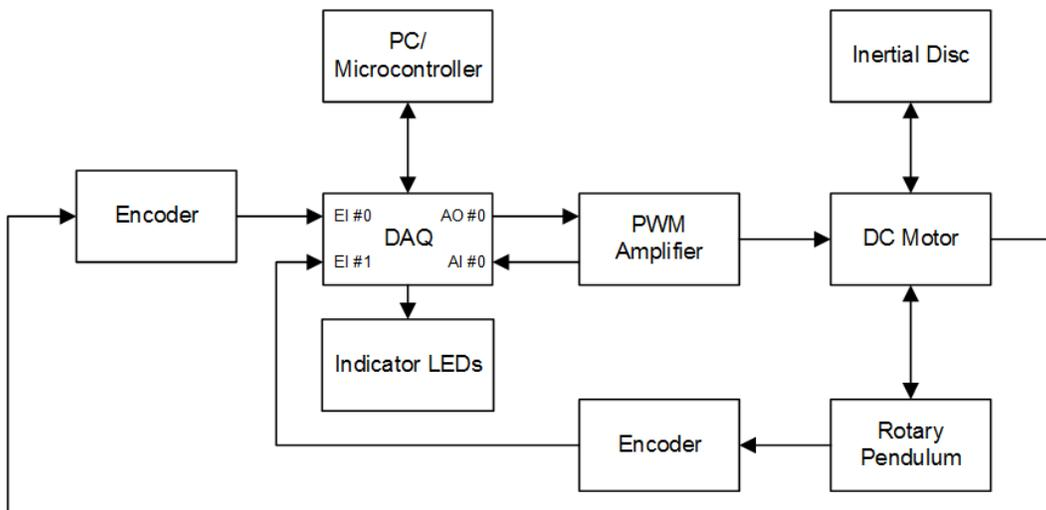

Figure 2.1: Interaction between QUBE-Servo 2 components.
The interaction between the different system components on the QUBE-Servo 2 is illustrated in Figure 2.1. On the data acquisition (DAQ) device block, the motor and pendulum encoders are connected to the Encoder Input (EI) channels #0 and #1. The Analog Output (AO) channel is connected to the power amplifier command, which then drives the DC motor. The DAQ Analog Input (AI) channel is connected to the PWM amplifier current sense circuitry. The DAQ also controls the integrated tri-colour LEDs via an internal serial data bus. The DAQ can be interfaced to the PC or laptop via USB link in the QFLEX 2 USB, or to an external microcontroller via SPI in the QFLEX 2 Embedded.